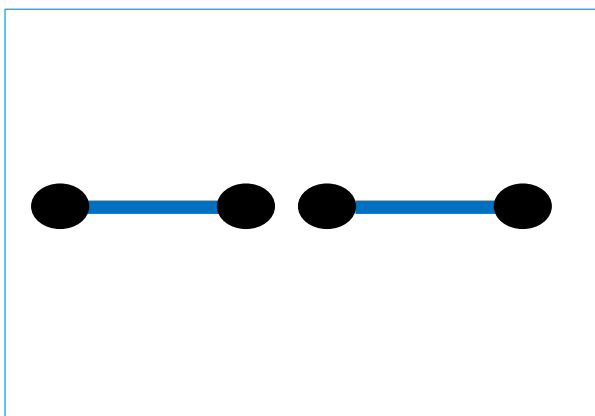

Figure 3 – Pipe endpoints not connected
- Endpoints not connected: Two pipe ends are very close together but not connected. See Figure 3.